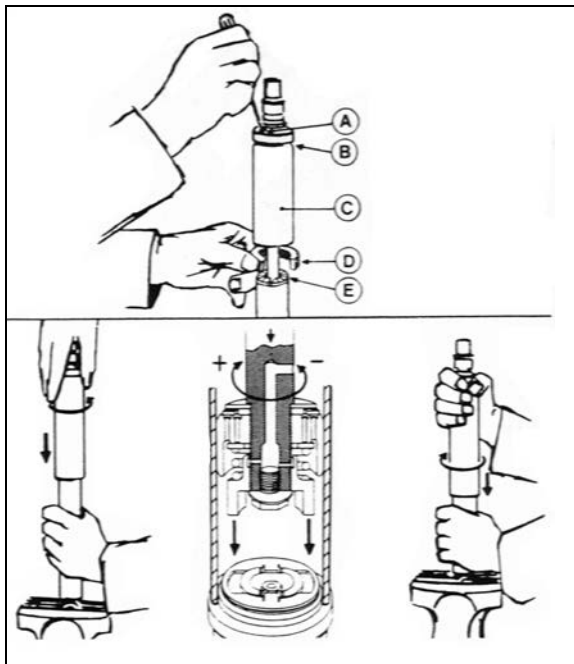

FIGURE 17: DAMPER
To adjust opening and closing cycle speed on damper (Figure 17):
2. Fully close the damper while turning the dust cap or piston rod slowly CCW until it is felt that the cams of the adjusting nut engage in the recesses of the foot valve assembly (Figure 17).
In Figure 17, if there is an indentation (B) in the dust cap (C) and the cover shows two holes (A), the damper is fitted with a bump rubber (D). If so, fully extend the damper and insert a round bar or screwdriver through the holes. Push the bump rubber down and remove. Remove the split plastic collar (E) (if fitted) from the piston rod.
Where a bump rubber was installed, refit same inside the dust cap and by fully closing the damper, the rubber will seat again at top of the dust cap. Refit the split plastic collar E (Figure 17)
3. Remove the Allen button head screw and the washer retaining the ball and socket rod to the upper hinge. See Figure 17.
3. Remove the Allen button head screw and the washer retaining the rod end with bearing to upper hinge. See Figure 17.